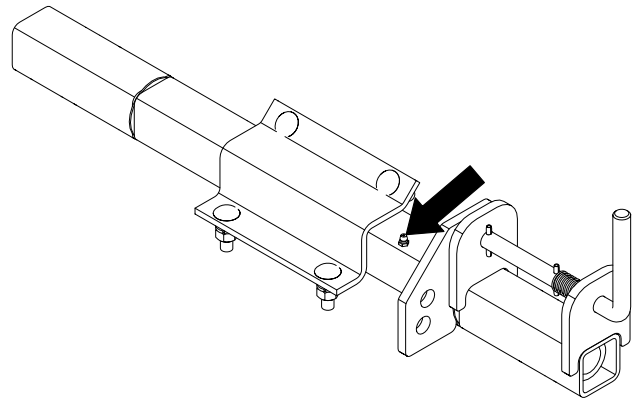

Figure 41 Flip UP Dual Disk Mounting Tube Zerks
2. Lubricate flip up mounting tubes (Figure 41)